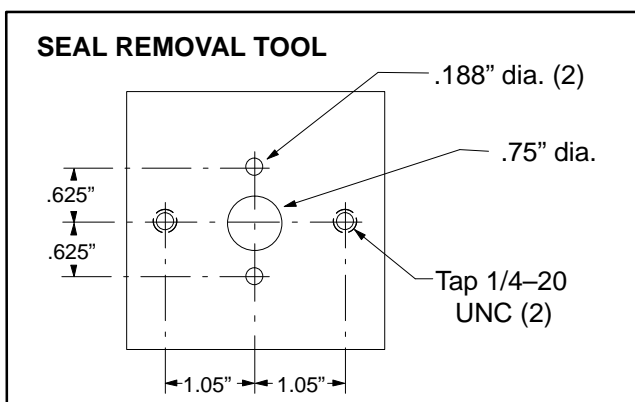

Figure 27
- A. Using a 1/4" thick, 3" X 3" square piece of steel, make a seal removal tool as shown in Fig. 27.